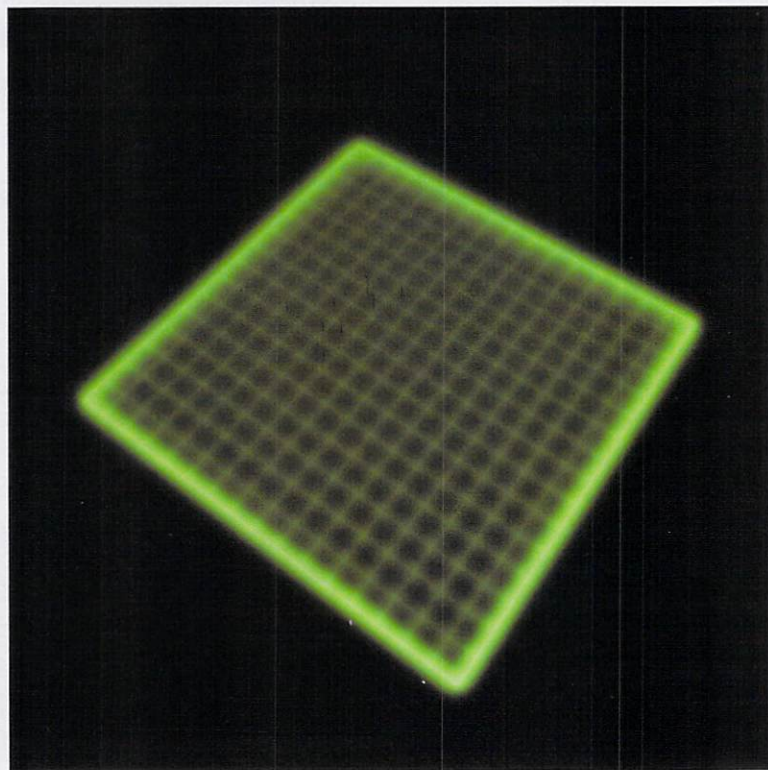

FIGURE 9 – THE SECONDARY GRID TEXTURE APPLIED ON TOP OF THE PRIMARY GRID TEXTURE
**28** In the second grid's place2Dtexture node, I set the repeat UV attributes to 16. Now the plane renders as a growing green grid with a bright border. See figure 9.